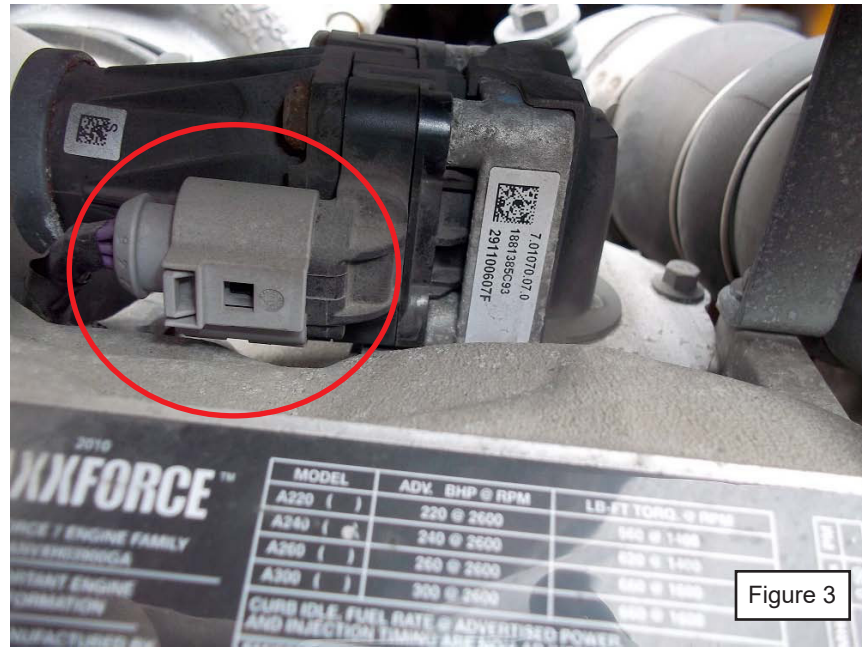

Figure 3
4. Remove EGR cooler temperature sensor (see figure 2). Disconnect EGR valve electrical connector to close the EGR valve (see figure 3 & 4).